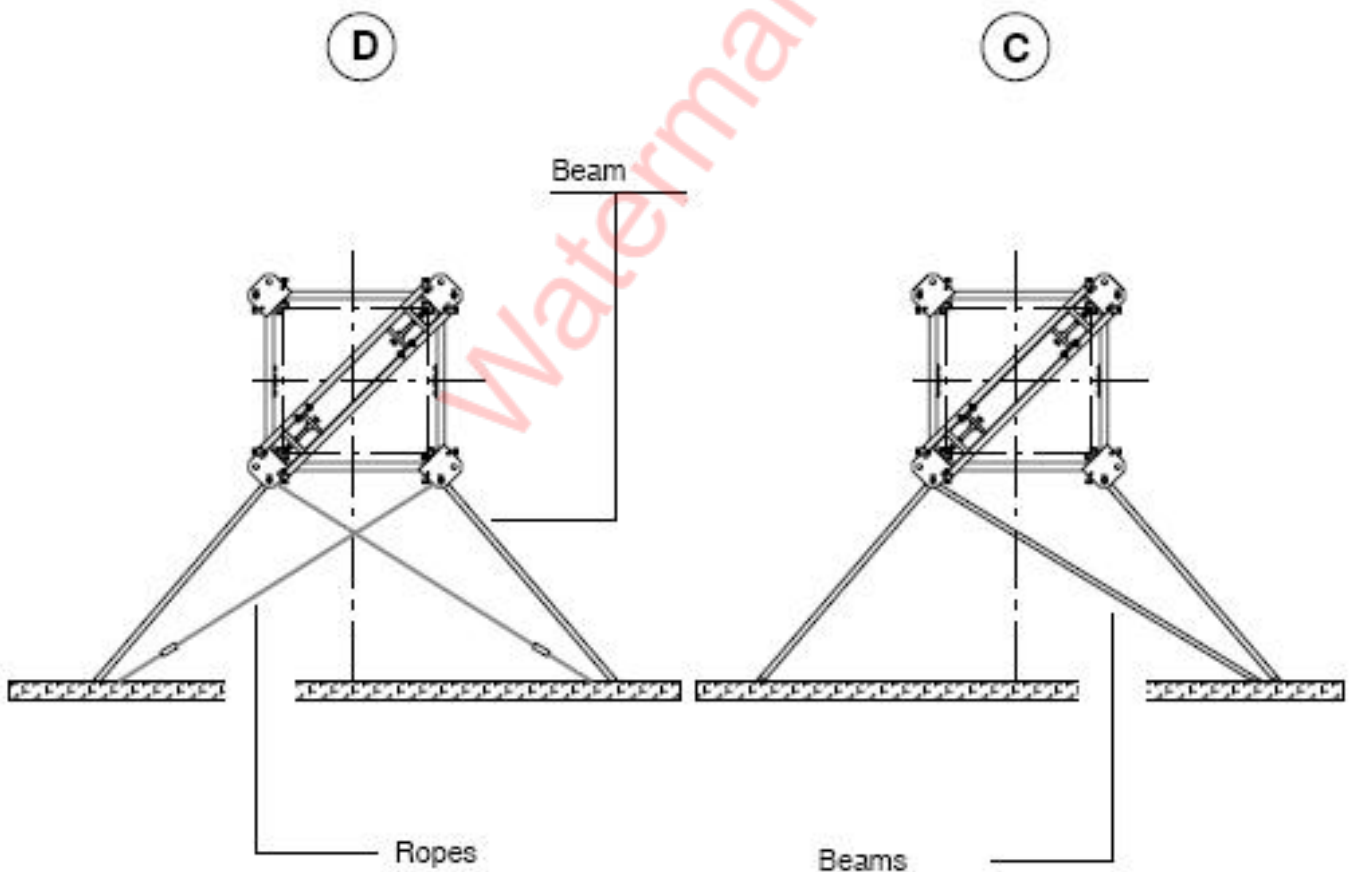

Figure 3
on the preceding page (Detail C – Figure 3).
– Ropes: Fitted inside the beams, they complete a device which, if possible, should be arranged symmetrically with respect to the axis of the crane (Detail D – Figure 3).